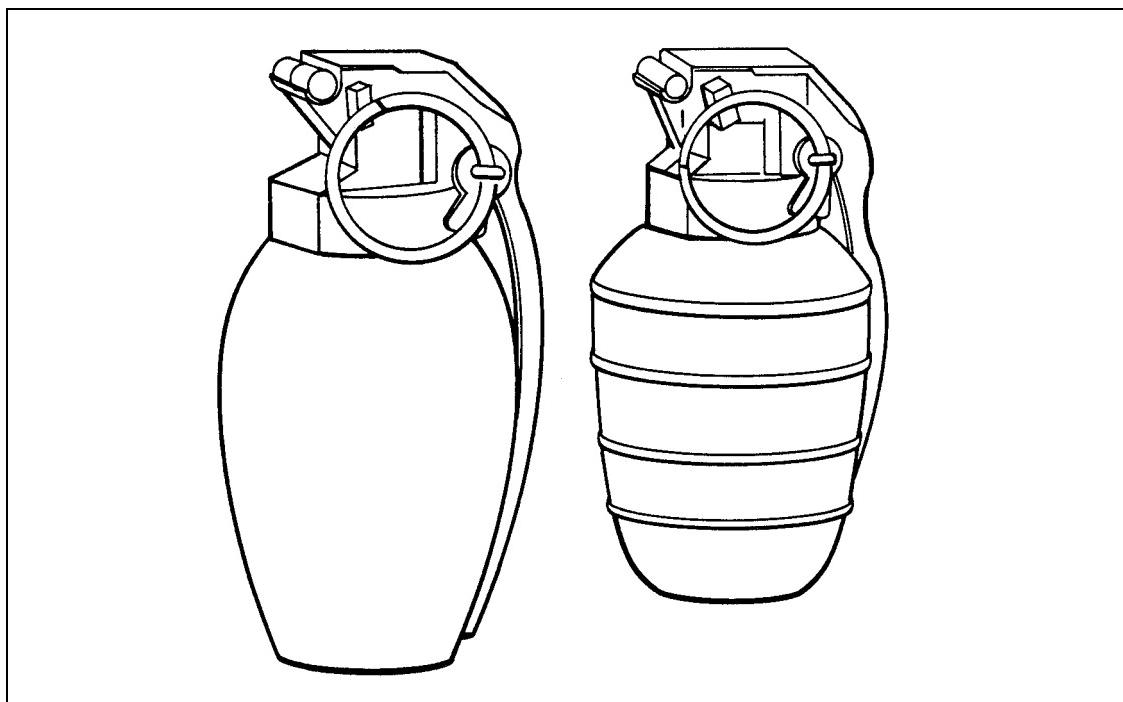

Figure F-19. HdGr 78 hand grenade.
- Type: Defensive. (Figure F-19)